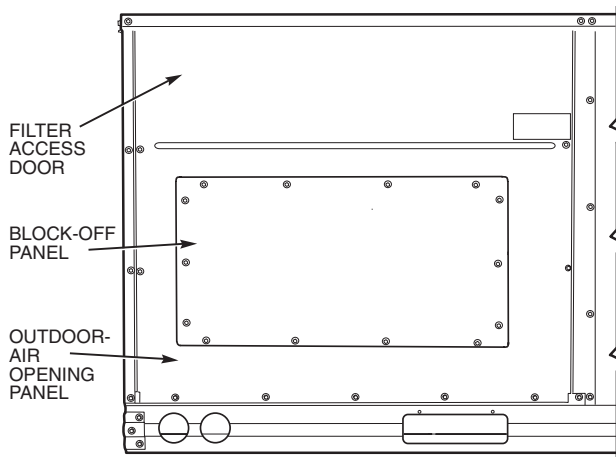

Fig. 22 — Typical Access Panel Location
2. Remove filter access panel by raising panel and swinging panel outward. Panel is now disengaged from track and can be removed. No tools are required to remove filter access panel. Remove outdoor-air opening panel. Save panels and screws. See Fig. 22. Remove optional outdoor-air damper hood package from filter section.